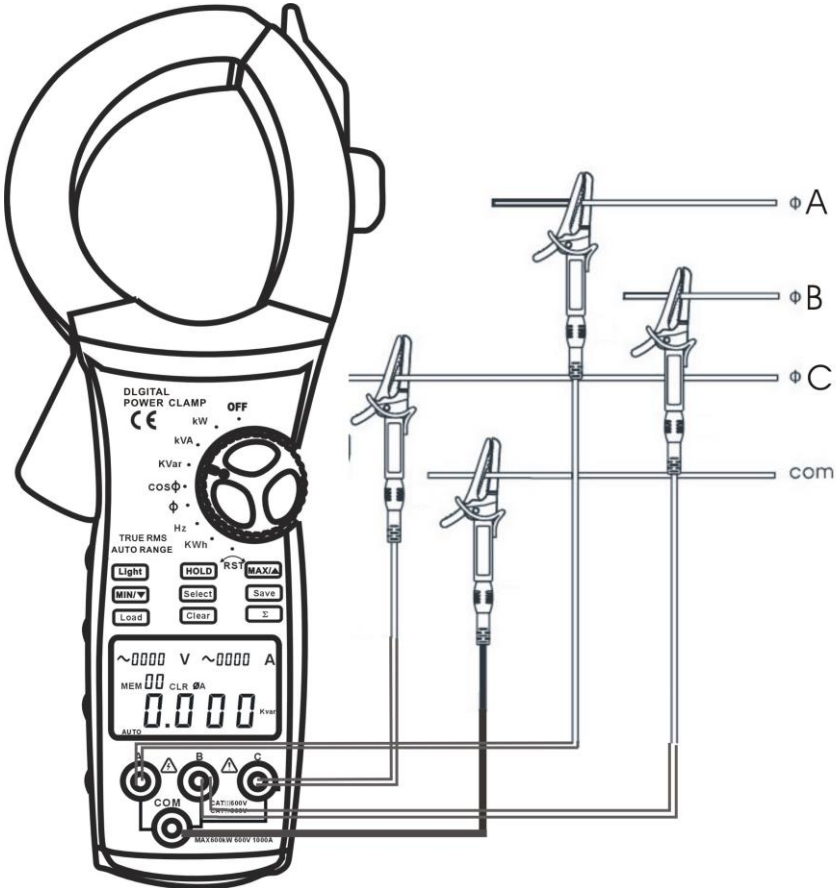

figure 4
A. AC Voltage (main display) + Frequency (secondary display) Measurement (see figure 4)